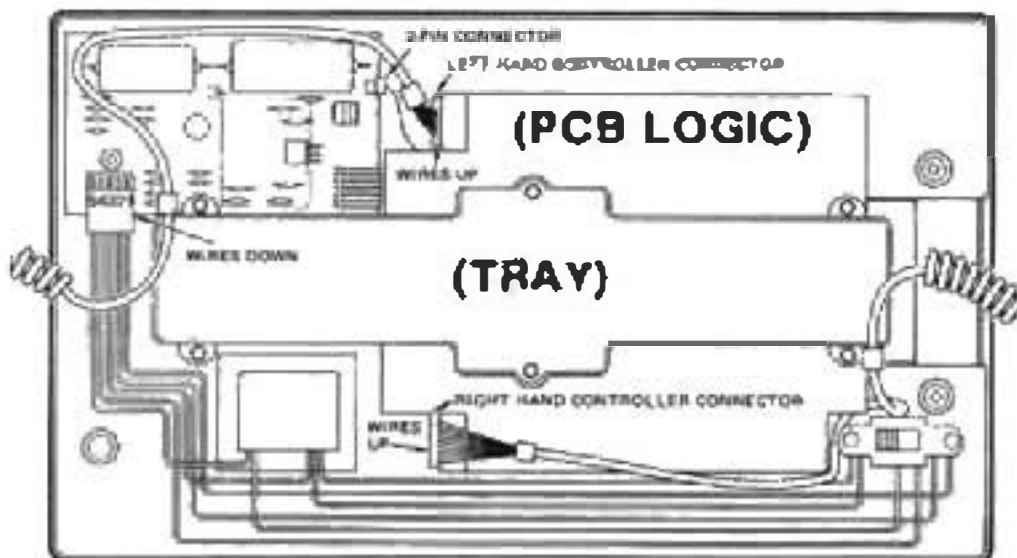
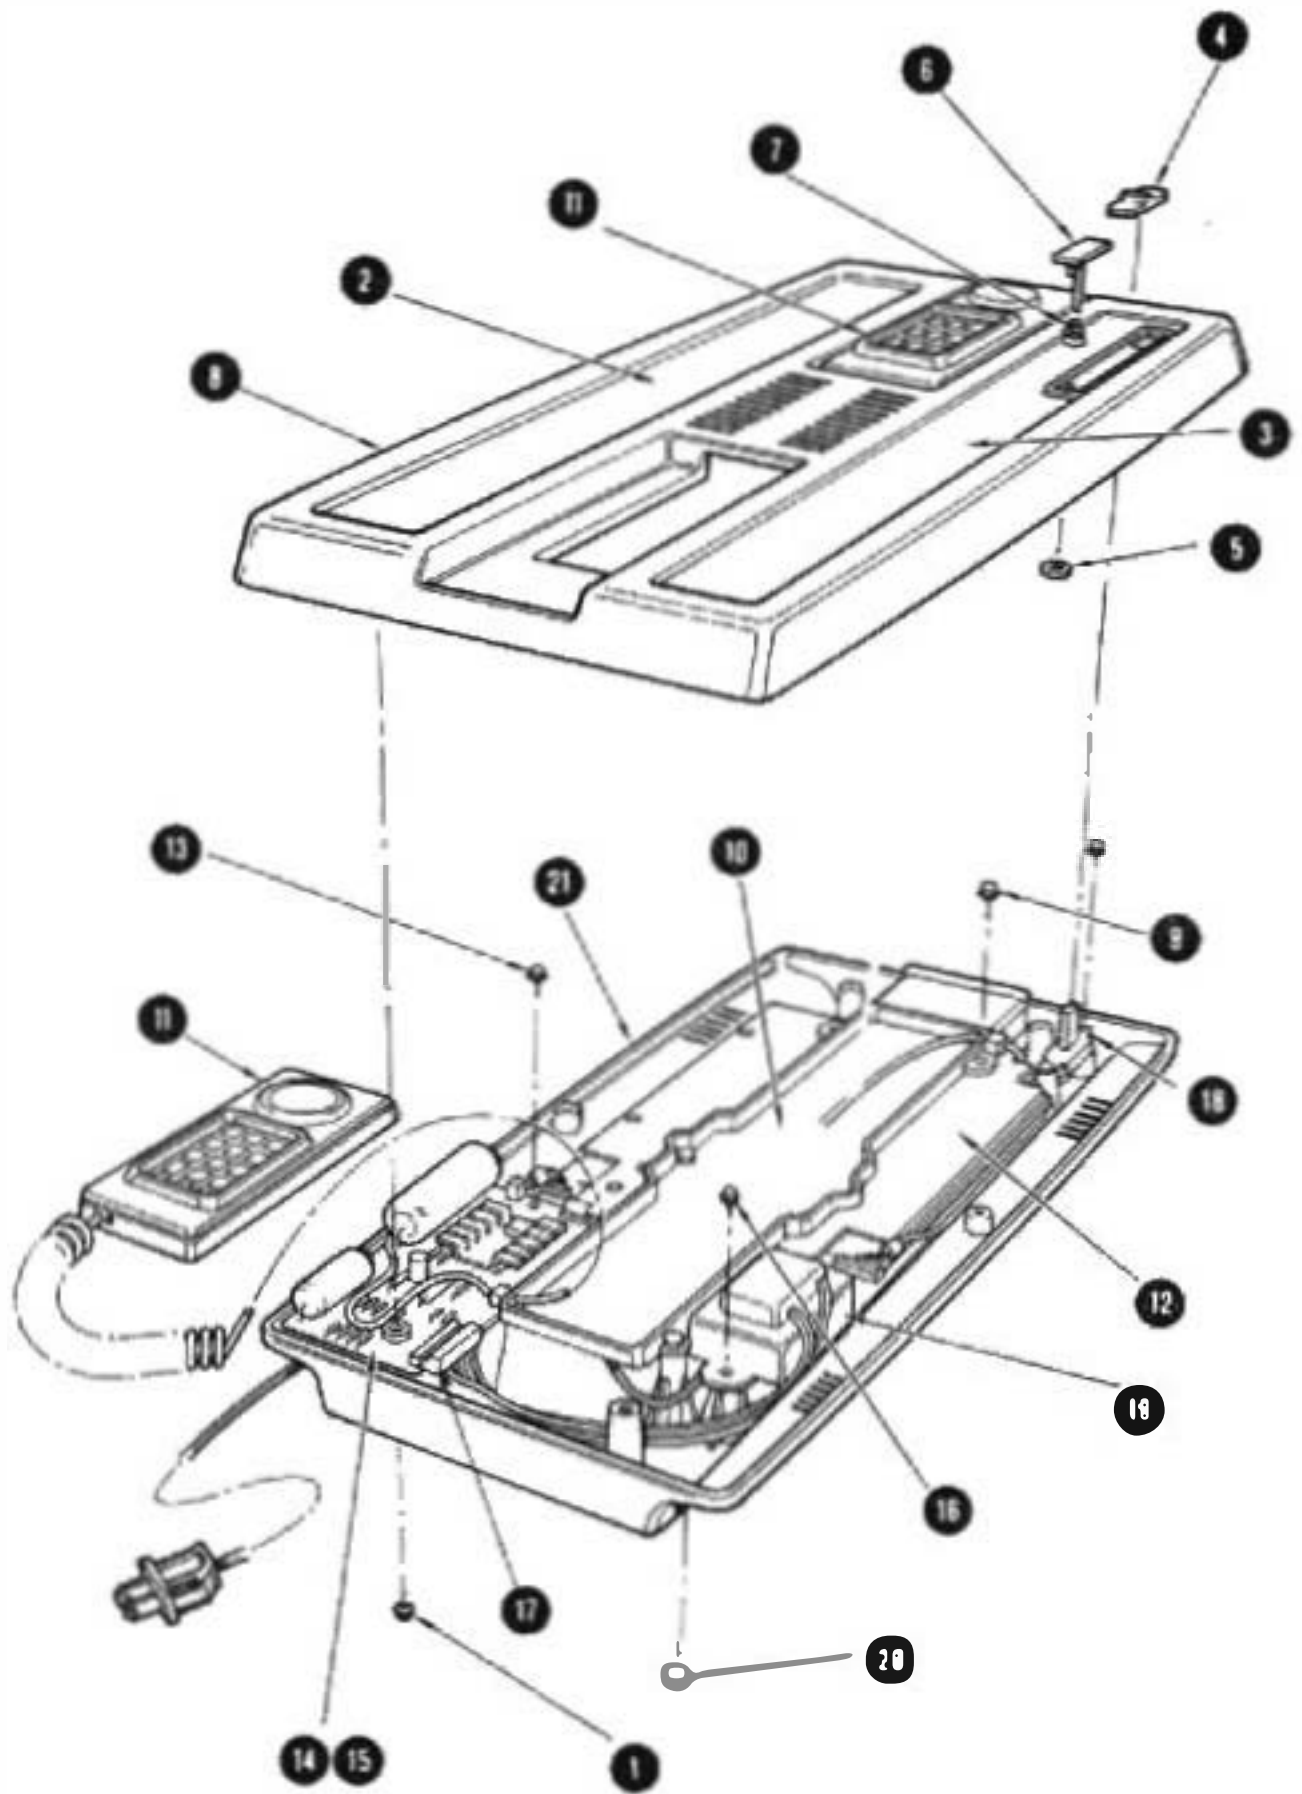

Figure 5-1 Connector Installation Diagram
Figure 6-1 EXPLODED VIEW Console Assembly
NOTE: 1. WIRE / CABLE SIZE TO FIGURE 6-1
5-2. ASSEMBLY OF CONSOLE ASSEMBLY. Refer to Figure 5-1 (Page 6-3) and assemble the console assembly as follows:
b. Install transformer/switch assembly in bottom housing (21). Route wiring as noted during disassembly. Secure assembly in place with four screws (16).
c. Install insulator (15) in bottom housing. Install PCB-Power Supply (14) on insulator in bottom housing assembly. Secure PCB Power Supply to bottom housing with two screws (13).
d. Connect the 5-pin connector (17) from the transformer/switch assembly to the PCB Power Supply (14) as illustrated in Figures 5-1 and 5-2.
e. Connect the hand controller assemblies (11) cable connector to the PCB Logic (12) as illustrated in Figures 5-1 and 5-2. Route hand controller cables in bottom housing assembly (21) as noted during disassembly. Place the PCB Logic in bottom housing assembly.
f. Carefully connect the 5-pin ribbon cable (42, Figure 6-3) and 2-pin connector (58) from the PCB Logic (12, Figure 6-1) to the PCB Power Supply (14) as illustrated in Figures 5-1 and 5-2.
g. Install tray (10) in bottom housing assembly (21) and secure in place with six screws (9).
h. If removed, install spring (7), reset button (6) and fastener (5) on top housing assembly (8).
i. Slide hand controller assemblies (11) through openings in top housing assembly (8). Install top housing assembly on bottom housing assembly (21).
k. Carefully invert console assembly and secure top housing assembly (8) to bottom housing assembly (21) with six screws (1).
b. Locate the desired part on Figures 6-1 through 6-4 and note the numerical index number or reference designator of the part, as applicable.
6-2 DETAILED PARTS LIST. Replaceable parts and assemblies for the Mattel Intellivision Master Component are illustrated in Figures 6-1 through 6-4 and identified by index number in the associated detailed parts lists.